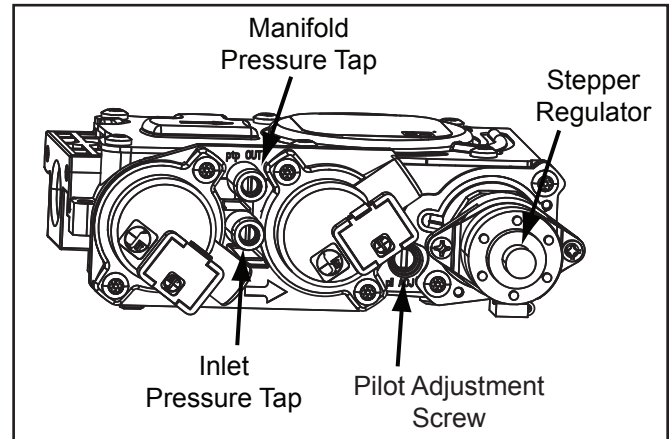

Figure 41: Valve Details.
The pressure taps are located on the top right of the valve shown in Figure 41.
1. The adjustment screw can be reached through the front of the unit using a 10 inch long blade head screw driver (see Figure 41 for location on valve).